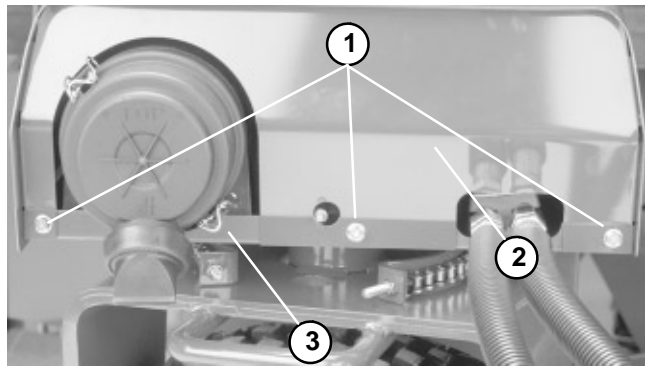
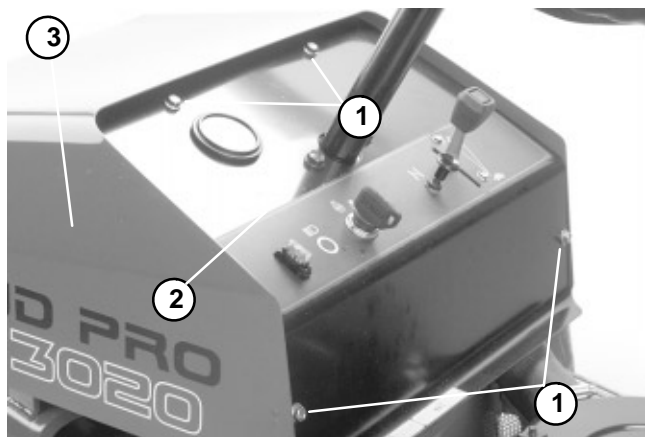

Figure 11
Figure 12
3. On the **SP 2020/3020** remove three hex flange head screws securing the hood to the front shield (Fig. 11). Remove four cap screws securing the dash panel to the hood (Fig. 12). Remove hood from the machine.
3. On the **SP 2020/3020**, position hood to the dash panel and front shield. Secure hood to front shield with three hex flange head screws (Fig. 11). Secure dash panel to hood with four cap screws (Fig. 12).
7. Position hood to the dash panel and front shield. Secure hood to front shield with three hex flange head screws (Fig. 11). Secure dash panel to hood with four cap screws (Fig. 12).